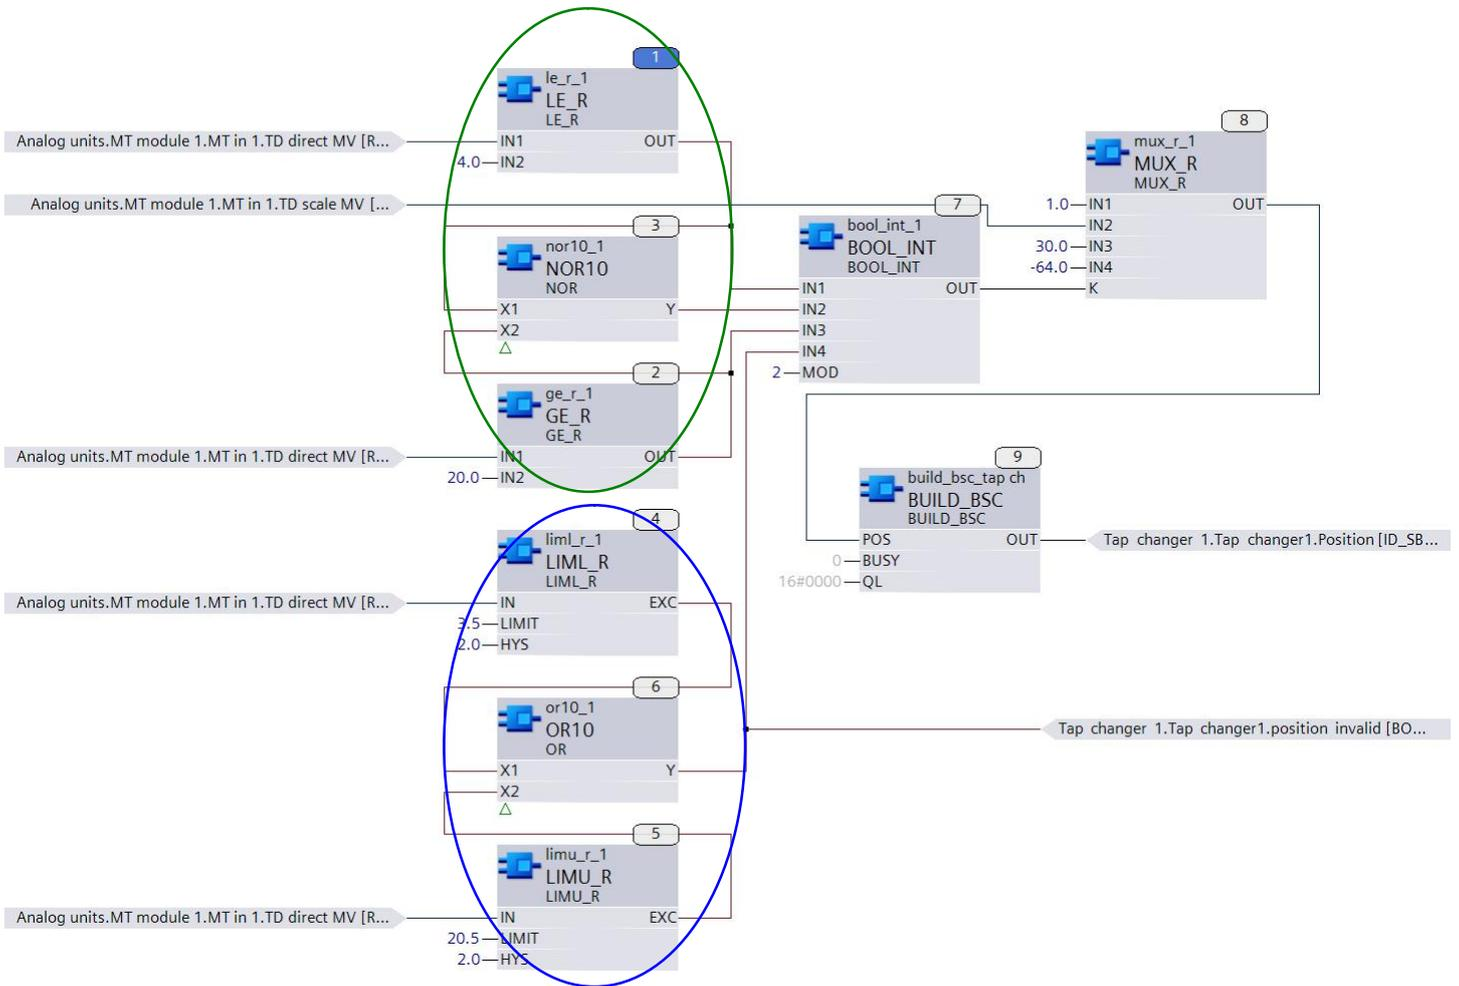

Fig. 6: CFC logic for the transformation including the handling of invalid input signals.
the invalid position. If it cannot be guaranteed that the input signal always lies within the preset range, the CFC plan must be extended. The invalid states are dealt with through two comparisons: LE\_R (1) and GE\_R (2), and the MUX\_R (8) as follows (see fig.6).